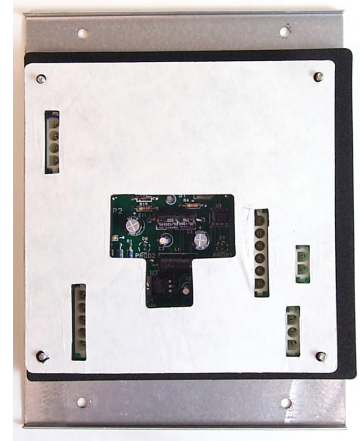

Fig.5: Position the denser gasket on the interface mounting studs with peel-off backing facing up.
- Position the denser gasket on the computer's mounting studs as shown in Fig. 5 and remove the backing. Position the new back for the computer assembly, noting the orientation of the cutouts, and lower into position on the mounting studs. Ensure the leading edge of the back cover comes to rest on the lower gasket and the adhesive backing on the gasket grips the cover. Fig. 6.